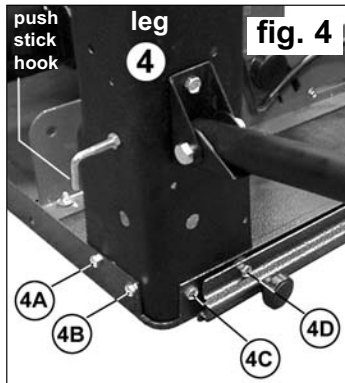

fig. 4
- 4.4 Attach leg 4 as shown in fig.4. Use 3 sets of fixings at positions 4A, 4B & 4C at this stage.
- 4.22 Bolt the push stick hook to leg 4 in the position shown in fig.4.